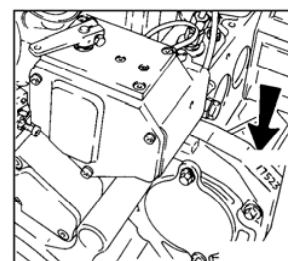

Fig. 1.3.
- See the fig. 1.3 to read the engine serial number.